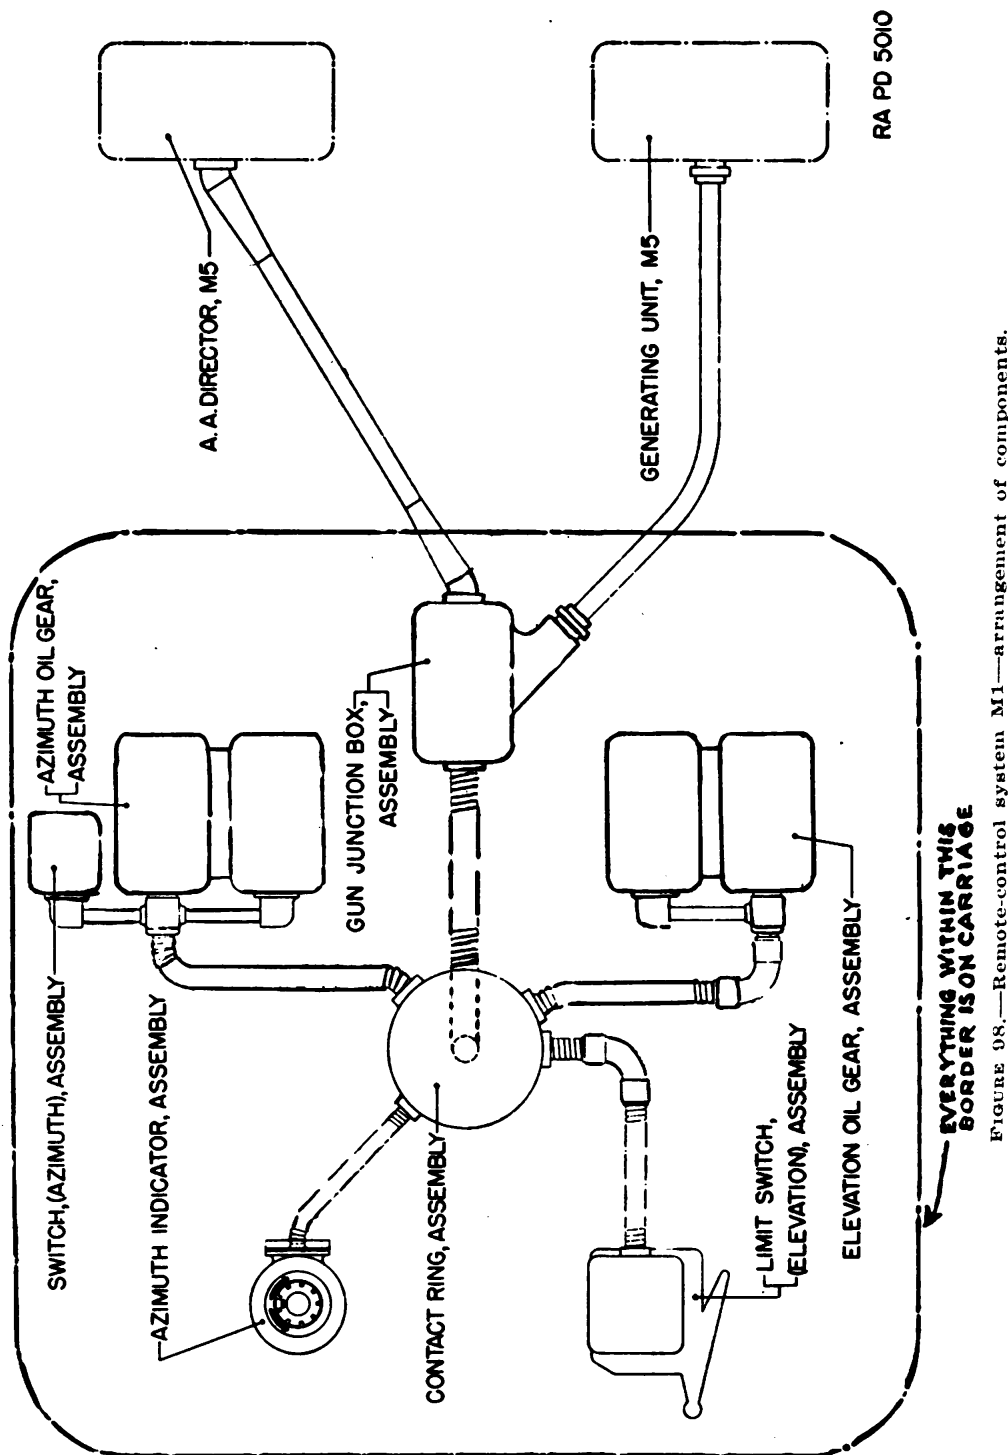
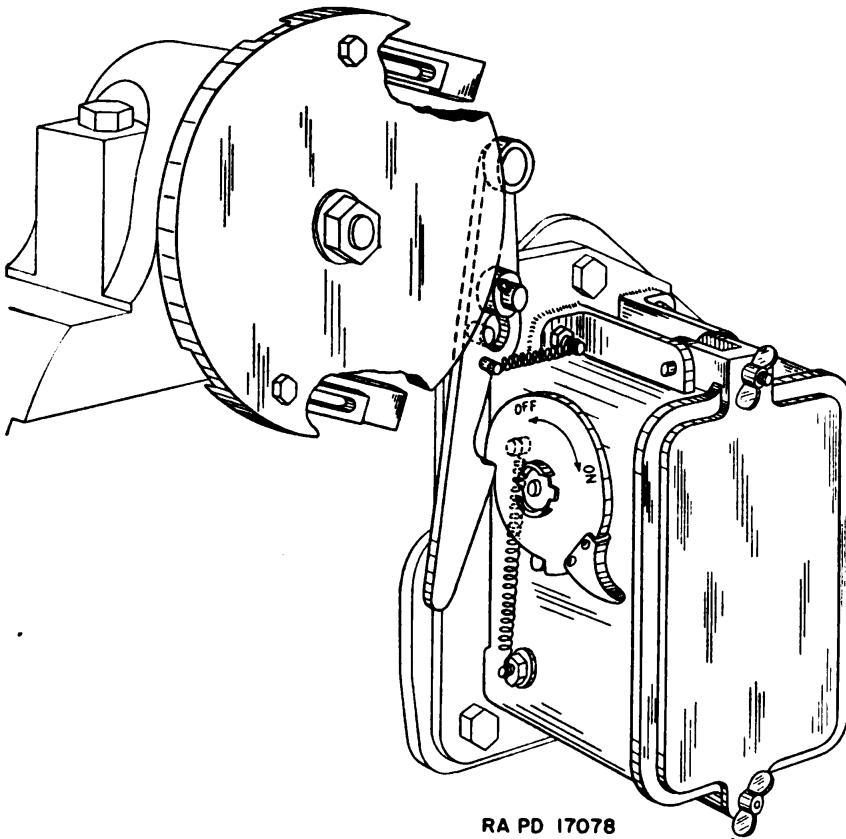
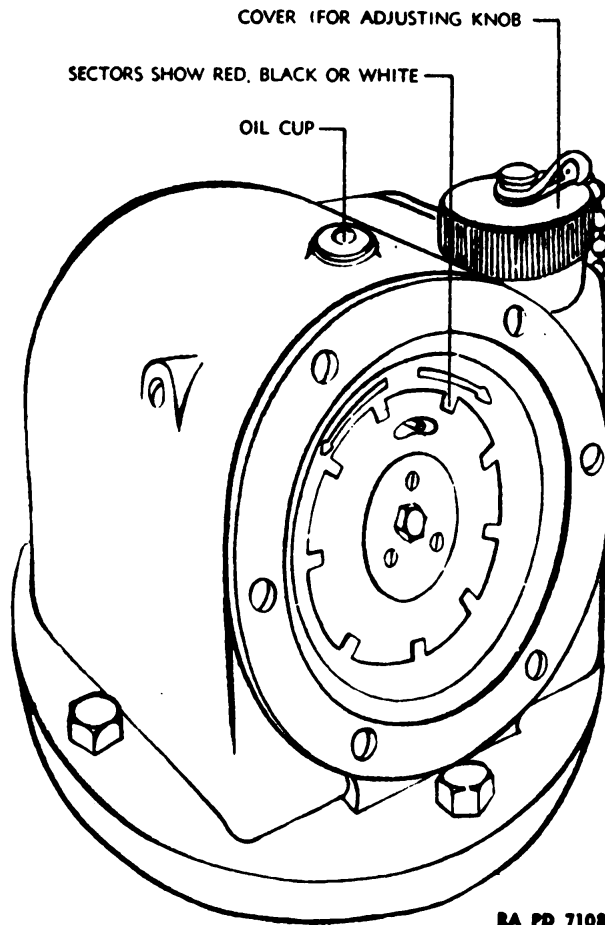

FIGURE 98.—Remote-control system M1—arrangement of components.
FIGURE 101.—Elevation limit switch.
FIGURE 102.—Azimuth phase indicator (red-black-white indicator).
d. It will be noticed that a superelevation (SE) setting is specified on the range scale. However, adjustment for this setting entails removal of the front cover plate of the director and is not normally done in the field. An average value of this setting is used, and corrections for other muzzle velocities are applied during operation by setting a suitable range.
**105. System, remote control, M1.—a. General.**—(1) The remote control system M1 is an electrically-controlled hydraulic power system designed for use with the 37-mm antiaircraft gun carriage M3A1. It is controlled by the antiaircraft director M5 (par. 100) with power supplied from the generating unit M5 (par. 108). The function of the remote-control system as a whole is to point the gun accurately in azimuth and elevation according to the output data supplied from the antiaircraft director. This type of control is known as "remote gun control."
(2) Two oil gear units, one for azimuth and one for elevation, supply controlled driving power for traversing and elevating the gun. The gun must be brought into approximate alinement with the director before the oil gear may be engaged, but once the oil gear is engaged the gun will follow the director accurately. Approximate alinement of the gun with the director is shown by an azimuth phase indicator (with "red-black-white" dial) (fig. 102) mounted on top of the azimuth gear box.
(3) The system permits continuous tracking in azimuth, but is limited in elevation by an elevation limit switch which automatically goes to "off" before the mechanical limit stops are reached.
**b. Description.**—(1) The arrangement of the principal on-carriage parts of the remote control system are shown in figure 98. Cable connections from the director and generating unit are made to the
behind the clutch lever which locks the clutch lever in either "in" or "out" position. The clutch is disengaged when the top of the lever points towards the coupling and engaged when the top of the lever points away from the coupling. The power switch (elevation limit switch) is mounted on the gun trunnion and is arranged to trip automatically at the upper and lower elevation limits. (See fig. 101.)
(4) The azimuth phase indicator (fig. 102) is used as an alinement indicator when synchronizing the gun with the director, after slewing the gun carriage. It consists of a circular black shutter operated by
(6) The boresighting should be checked on a second aiming point or on the same aiming point after the director and gun have been traversed through a large arc.
(7) After the gun and director have been accurately alined, the mechanical dial of the azimuth phase indicator must be adjusted, if the indicator shows either red or white. This can be done by removing the cover over the adjusting knob (fig. 102), depressing the knob, and turning it to rotate the dial. Rotate the dial so that the pin projecting through the shutter is in the center of the slot and the indicator face is completely black. When the knob is turned clockwise, the pin will rotate clockwise and vice versa.
(8) The gun can be checked for elevation by means of a gunner's quadrant. With the system energized, check the gun elevation against the reading of the elevation dial at the director. The check should be performed at two points, preferably  $0^\circ$  and  $30^\circ$ .
(9) After all the necessary adjustments have been made, both the gun and the director should be set at an elevation of  $30^\circ$  (or any other selected elevation, provided the same setting is used at both the gun and director) so that the gun will line up with the director as soon as the system is energized.
*c. Tracking the target.*—(1) When the target is sighted, the elevation limit switch on the gun carriage should be closed by pressing the switch down (fig. 101) so as to energize the elevation oil gear. The elevation oil gear clutch should always be engaged before the elevation switch is closed.
(2) Close the main switch on the generating unit to energize the system.
(3) When the director picks up the target, bring the gun into line with the director by traversing the gun until the azimuth indicator shows black, and then push the operating handle forward. This last operation throws the azimuth switch and engages the clutch in the azimuth oil gear. It is not necessary for the azimuth phase indicator to be completely black when throwing the azimuth switch, as the gun will synchronize with the director if initially alined within  $10^\circ$ , that is, if a narrow strip of red or white shows through the shutter.
(4) After the director picks up and tracks the target, it computes the firing azimuth and quadrant elevation and transmits these electrically to the oil gears which operate the gun. All human pointing errors at the gun are eliminated by the remote control system. Once the